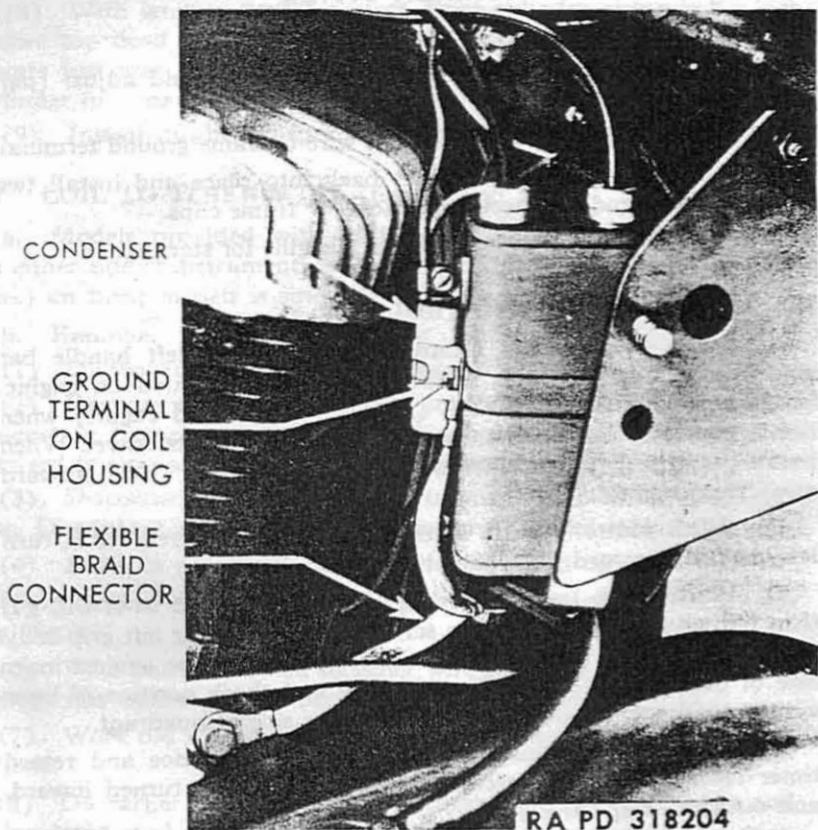

Figure 54—Coil Front Connections Showing Radio Bonding and Noise Suppression Condenser
(3) Check final adjustment. Readjust full advance and retard timer lever positions as necessary when left grip is turned inward, and outward, respectively.
89. SPARK COIL (fig. 54).
- (7) Swing cleaner back and remove wire connections from coil front terminal screw (fig. 54).
- (8) Disconnect radio bonding at coil front ground terminal (fig. 54).
- (9) Remove nuts and bolts which mount coil to bracket. Coil is now free for removal.